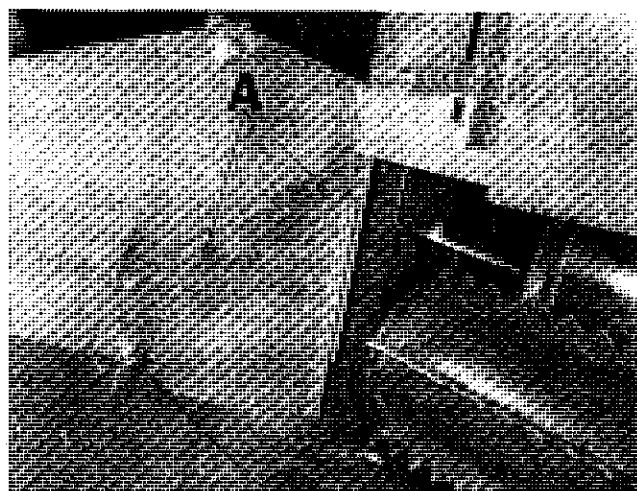
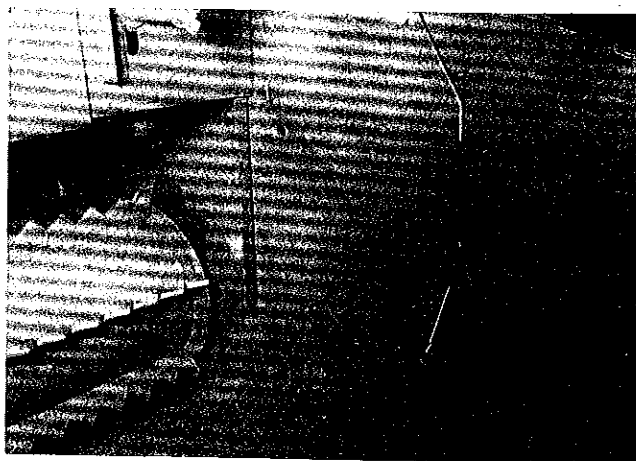

Figure 12 — Rear Mill Filler Plate
Figure 13 — Chute Pivot Point
20. Weld filler plates securely in place and remove the two 5/16 hex cap screws and nuts holding the rear mill filler plate, Point A, Figure 12. Install the drag support hanger assembly, Item 9, page 17, to the sheller hopper area. Fasten at the front side with bolts used to hold Item 23, page 17, to the mill throat plus an additional 3/8 x 1 slotted truss head screw, flat washer, lock washer and hex nut. At the rear side, fasten the upper front corner with a 3/8 x 1 slotted truss head screw, lock washer and hex nut. The upper rear corner uses a 3/8 x 1 hex head cap screw, (4) 3/8 flat washers, a 3/8 lock washer and hex nut. A new 13/32 diameter hole must be drilled thru the
mill throat at the lower rear hole in the hanger, Item 9, page 17. The chute plate, Item 15, page 17, is then attached at this hole with a 3/8 x 1-1/4 hex head cap screw, flat washer and hex lock nut. Tighten enough to allow the chute to pivot. A new 13/32 diameter hole must also be drilled thru the mill throat at the front side to allow the chute to pivot at the front. Locate hole at Point A, Figure 13. Attach with a 3/8 x 1-1/4 hex head cap screw and hex lock nut. Tighten enough to allow the chute to pivot. Drill the 2 holes where the rear mill filler plate fastens thru the drag support hanger with an 11/32 diameter hole. Install (2) each 5/16 x 1 hex head cap screw, lock washers and hex nuts, at Point A, Figure 12.